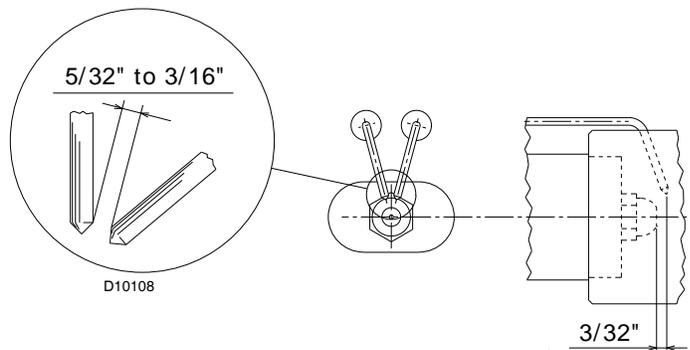

Fig. 17
- Make sure that the electrodes are positioned as shown in Fig. 17.
Make sure that the electrodes are positioned as shown in Fig. 17.